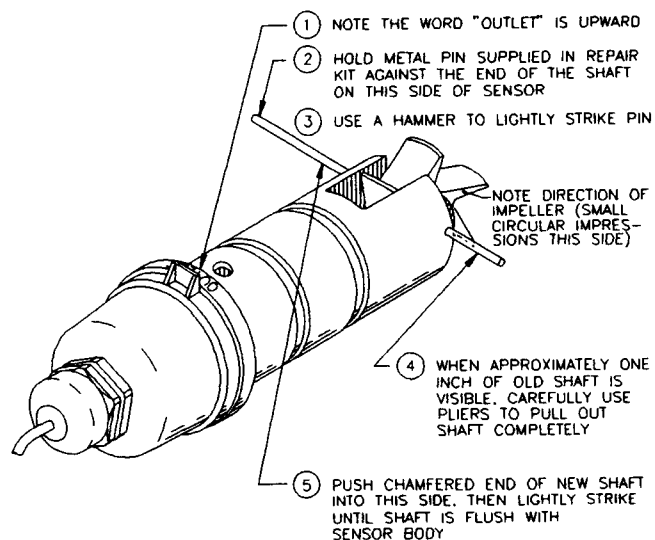

FIGURE 4-1
The impeller assembly of the flow sensor is designed to be easily removed and replaced for servicing or replacement of worn parts. Refer to Figure 4-1 for replacement details.
3. Place new impeller in slotted end of sensor with direction of rotation as noted in step 1. Push chamfered end of new shaft into sensor body on the side indicated in Figure 4-1. Lightly strike new shaft until it is flush with sensor body. Be careful not to damage new ceramic shaft.